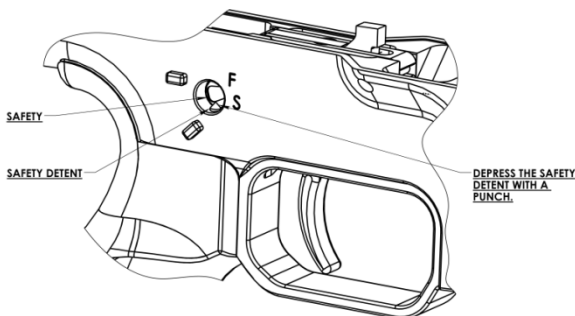

Figure 37.
2. Insert the safety into the receiver until it stops on the safety detent. Using the tip of a pen, cleaning rod or similar object, depress the safety detent and finish inserting the safety into the receiver. The safety lever must be halfway between the limiting stops on the lower receiver. (Figure 37.) The safety can be inserted on the opposite side to accommodate a left-handed shooter. Installation is the same.